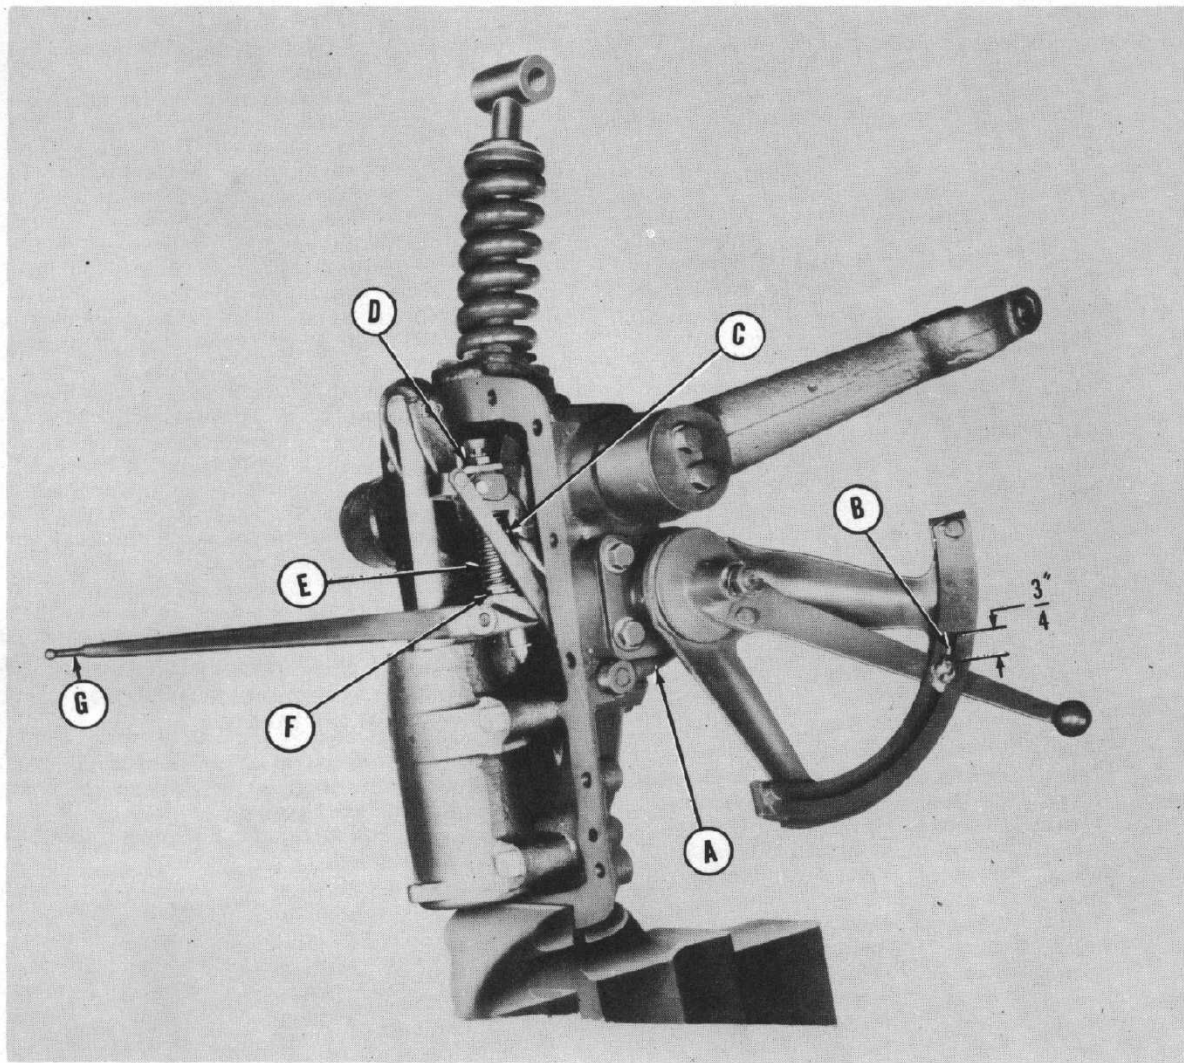

Fig. 9
- a. Engage the implement position control lever (A-Figure 9) by moving it to the "up" position.
the top edge of the lever and the top end of the slot in the quadrant as shown at (B-Figure 9).
NOTE: Make sure the control arm (G-Figure 9) moves freely.
- d. Raise the implement position control spring linkage until the pin (C-Figure 9) contacts the cam on the lift ram arm.
- e. Raise the control arm (G-Figure 9) until the swivel comes into contact with the collar on the constant draft control spring.
- f. Adjust the length of the implement position control spring (E-Figure 9) by loosening the locknut (D-Figure 9) and turning the adjusting bolt (F-Figure 9), so that it contacts the control arm when the pin is touching the cam and the swivel is in contact with the constant draft spring.
Step 4—Insert the right hand in the center housing at the inspection plate opening as shown in Figure 9, and guide the tip of the control arm into position in the control valve lever.